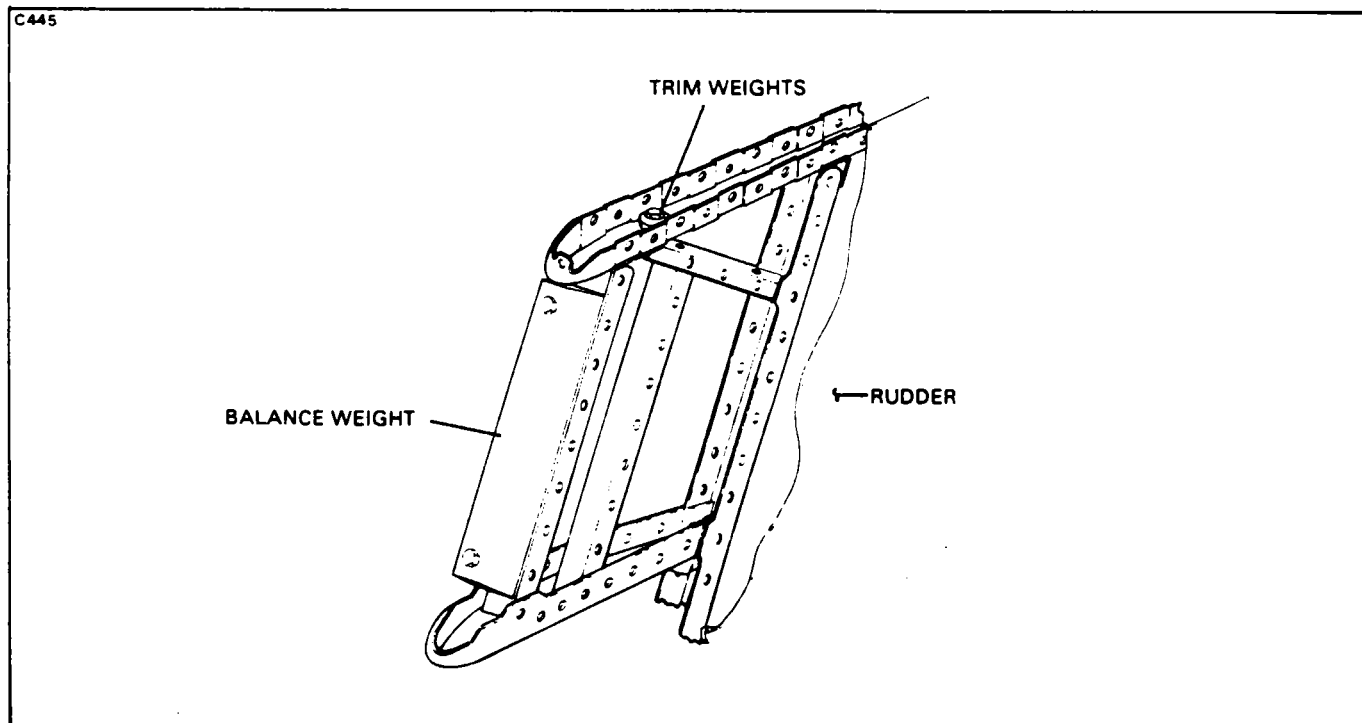

Figure 55-5. Rudder Balance and Trim Weight Location
10. For the rudder assembly, the trim weights are mounted on the uppermost rib assembly on the rudder. (Refer to Figure 55-5.)